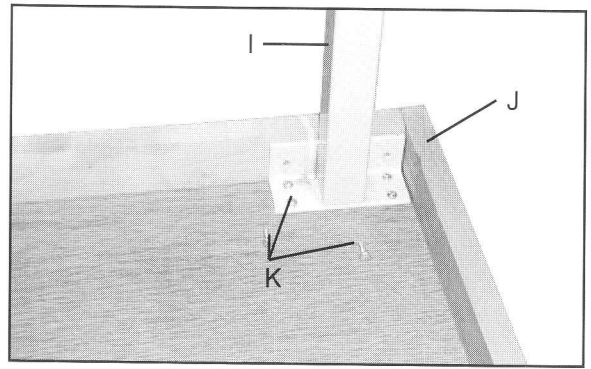

Fig. 11
7. Position the table leg (I) to the closed in corner of the extension table (J) as shown in Fig. 11.
8. Attach the table leg to the table board with six 5/8" long wood screws (K). Repeat this process for the remaining leg.